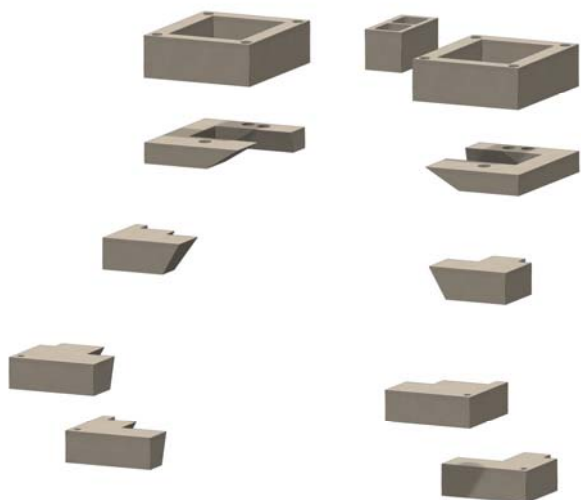

Figure 28. Pallet 3 Components
S. Stage components of pallet 3 in preparation for assembly. The components of pallet 3 are shown in Figure 28.